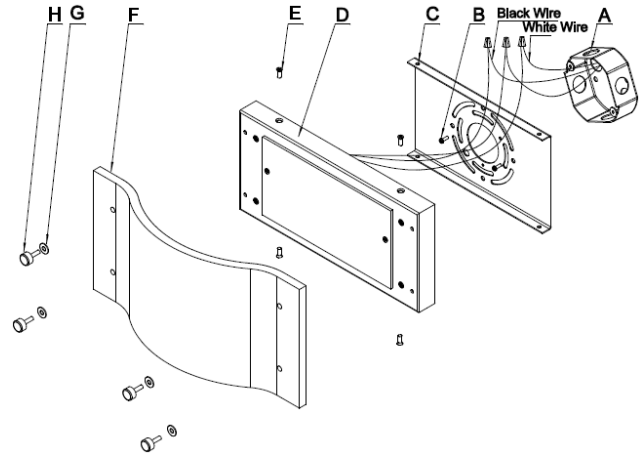

Fig.2
## CONNECTING THE WIRES (FIG. 2)
4. At this point, connect the electrical wires as shown in Fig. 2, making sure that all wire connectors are secured. If your outlet has a ground wire (green or bare copper), connect the fixtures ground wire to it. Otherwise, connect the fixture ground wire directly to the back plate (C) using the green screw provided.